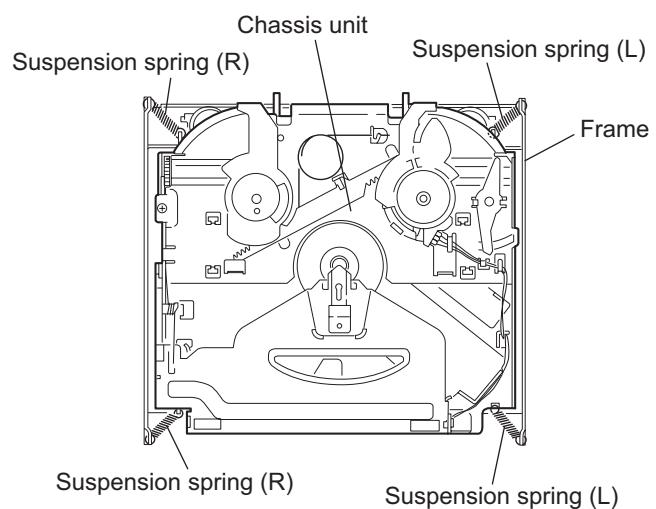

Fig.8
2.1.5 Removing the rear bracket (See Fig.8)
(See Figs.8 and 9)